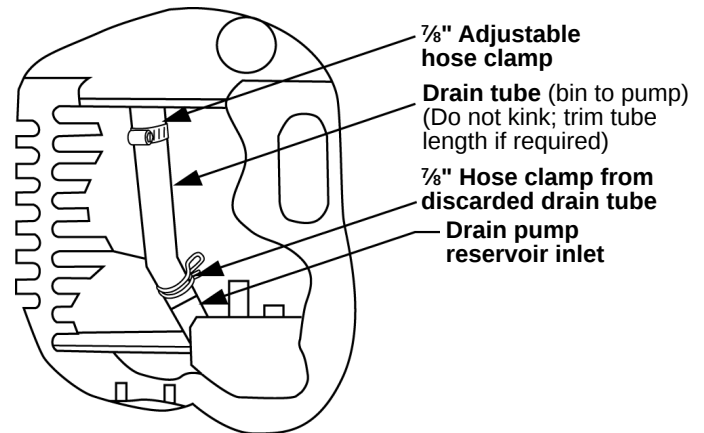

Figure 1
4. Install new drain tube ($\frac{5}{8}$ " ID x $5\frac{1}{8}$ ") to pump reservoir inlet using old clamp from step 3. See Figure 1.
10. Connect drain tube to ice maker bin ($\frac{5}{8}$ " ID x $5\frac{1}{8}$ ") to pump reservoir inlet using one (1) $\frac{7}{8}$ " adjustable clamp. See Figure 1.